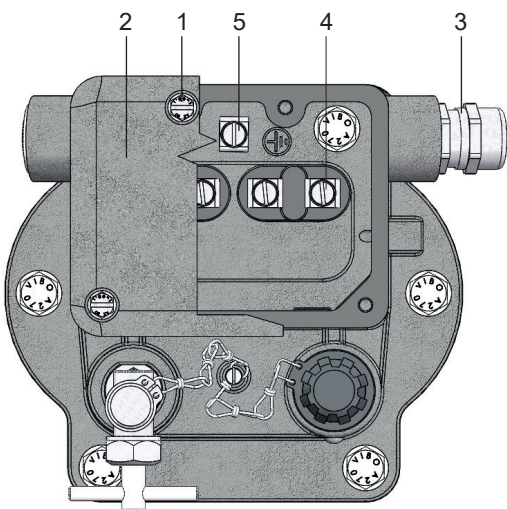

Fig. 6 – Electrical connection
- Remove the screws (Fig. 6/ no. 1).
- Remove the cap (Fig. 6/ no. 2).
- Insert the lead through the cable gland (Fig. 6/ no. 3).
- Connect the lead to the terminal studs (Fig. 6/ no. 4) (max. tightening torque: 3 Nm).
- Tighten the screws (Fig. 6/ no. 1) (max. tightening torque: 3 Nm).